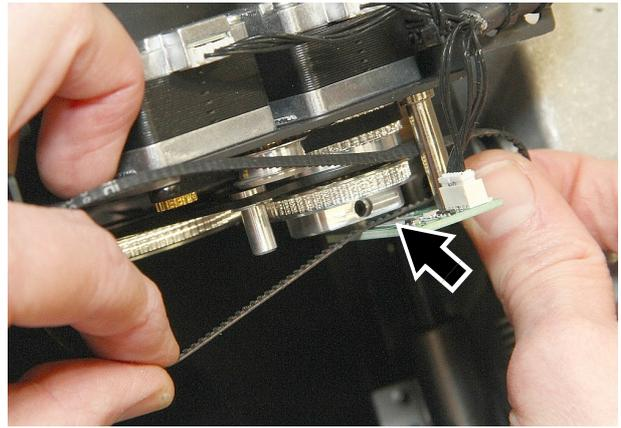

Figure 23: Disengaging the prism drive belt
- See Figure 23. When the drive belt is free of the prism, twist it so that it will pass sideways through the gap (arrowed) between the prism drive pulley and the sensor PCB. Lift the belt up through this gap and remove it from the head. If the belt is in good condition, store it for possible re-use.